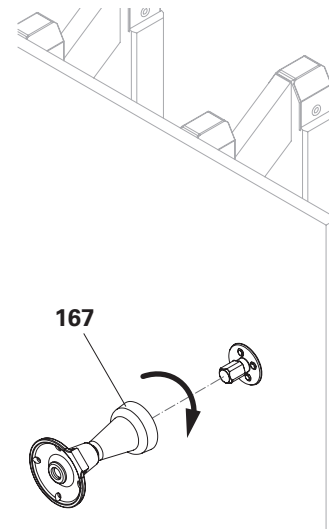

Fig. A3.23
3. Tightly screw pre-assembled climbing ties (**167**) onto the Anchor Positioning Stud M30 (**177**) and tighten. (Fig. A3.23 + A3.24)